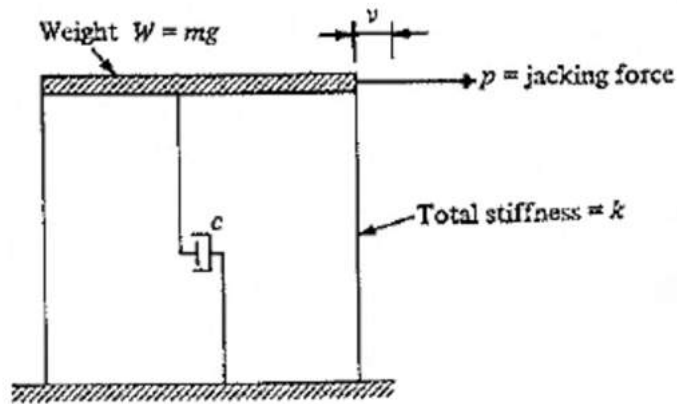

Fig.3
19. a) Explain logarithmic decrement and its practical significance (4)
- b) A one storey building is idealized as a rigid girder supported by weightless columns as shown in Fig. 3. In order to evaluate the dynamic properties of this structure, a free vibration test is made, in which the roof system is displaced laterally by a hydraulic jack and then released. During the jacking operation, it is observed that a force of 90kN is required to displace the roof system by 0.51 cm. After the instantaneous release of this initial displacement, the maximum displacement on the return swing is only 0.406 cm and the period of this displacement cycle is $T = 1.4$ s. (10)